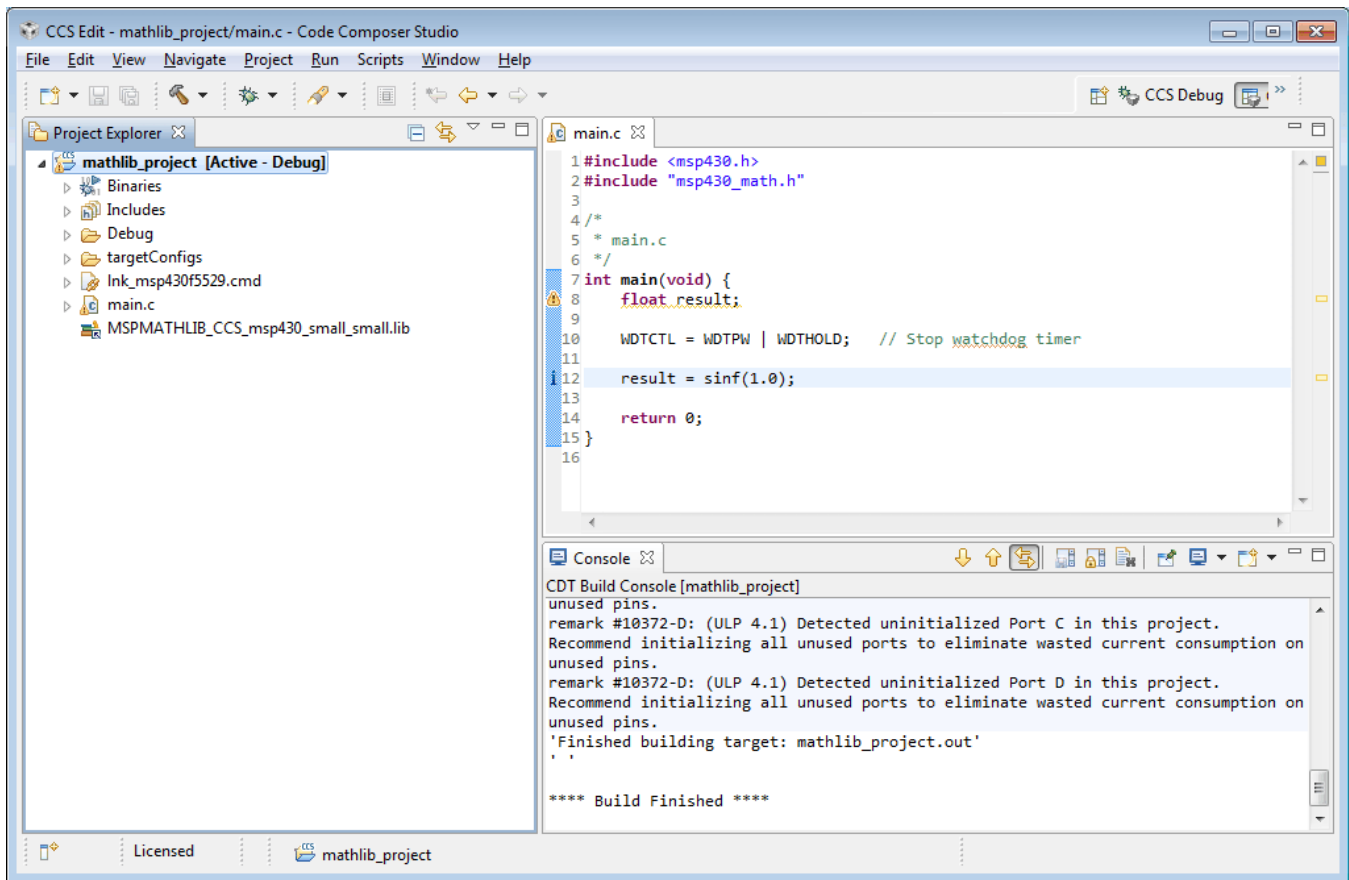

Figure 6. Build Project
- You can now build the project (see Figure 6). The MSPMATHLIB functions are linked in place of the standard math.h functions. The function prototypes are identical and require no additional considerations when coding.